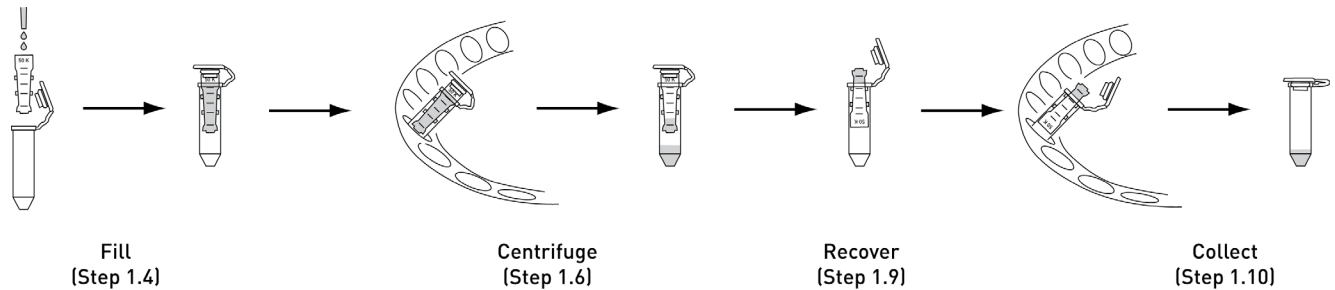

Figure 2 Antibody concentration and/or buffer exchange
- 1.1 Add 500 μ L of dH₂O to the small antibody concentrator (Component B) and cap the device as shown in Figure 2 (page 4).
1.9 Invert the small antibody concentrator (Component B) into the collection tube (Component C) as shown in Figure 2.